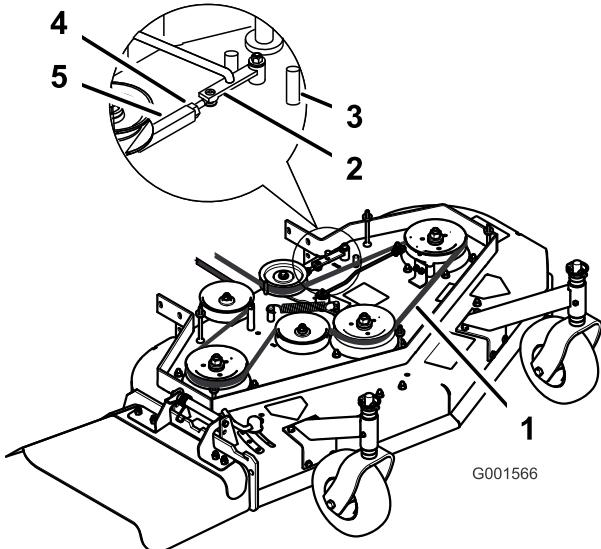

Figure 38
3. Loosen the locknut on the turnbuckle (Figure 38).
4. Rotate the turnbuckle toward the rear of the mower to increase the tension on the belt. Rotate the turnbuckle toward the front of the mower to decrease the tension on the belt (Figure 38).